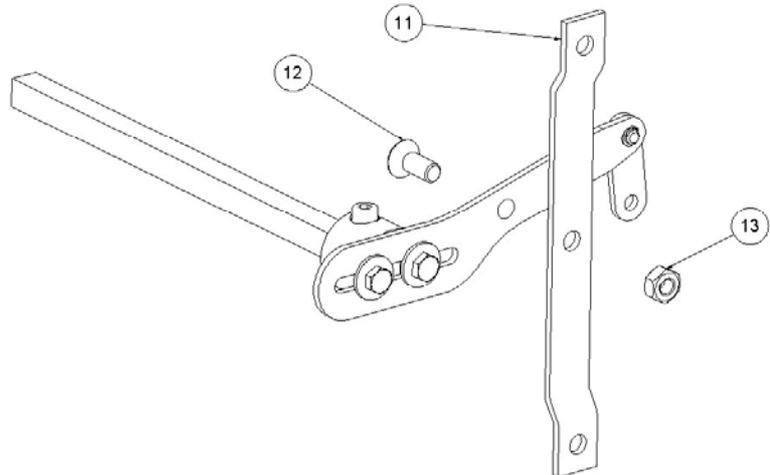

Figure.3
4. GOVERNOR LINKAGE PLACING: One of the screwed arms must be fixed to the governor linkage (11), through the M10 x 25 DIN 7991 screw (12) and the M10 DIN 985 Autoblock nut (13) – Fig. 3 –.